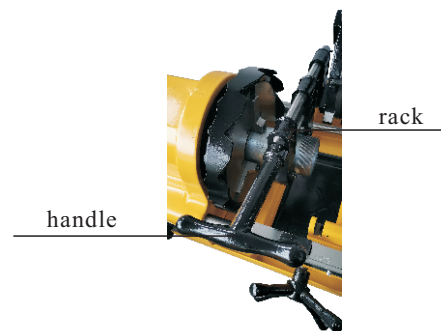

Fig.9
④ Cutting the pipe
- c. Rotate sledge handle to move the cutter kit to cutting position(See Fig.9).